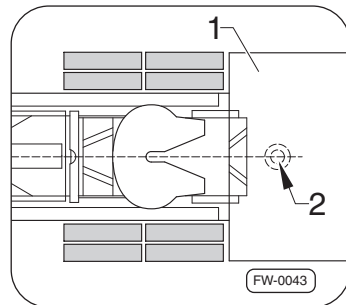

Fig. 12 · Align tractor and semi-trailer
4. Position the tractor in front of the semi-trailer ⇒Fig. 12, –item 1–.